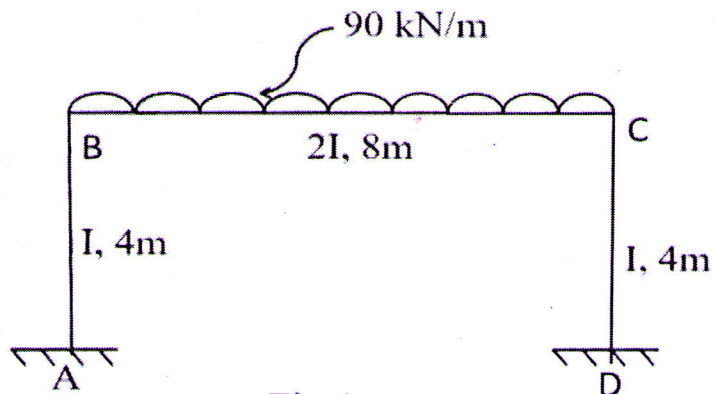

Fig.4
- 5 a) With the help of suitable figures, list the conditions under which a portal frame may sway laterally. (5)
b) Write down the analysis procedure of a continuous beam by Kani's method. (5)
c) What do you understand by support settlement and how does it affect the final moments in a continuous beam? (5)
- 6 Analyse the portal frame in Fig.4 by Kani's method and draw BMD. (15)